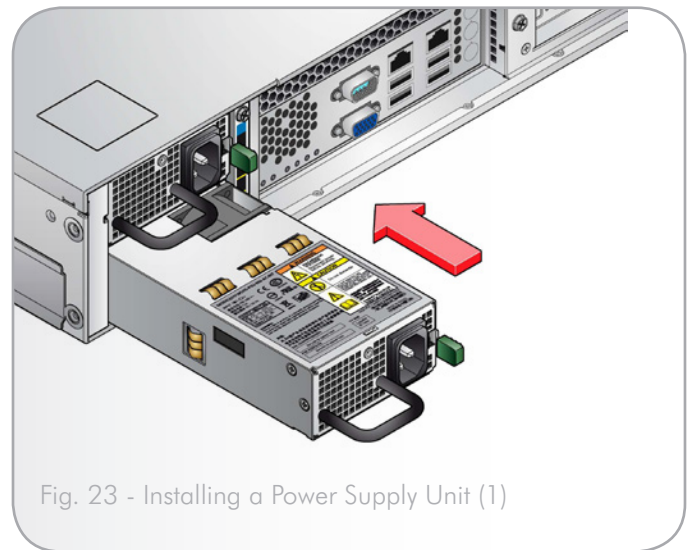

Fig. 23 - Installing a Power Supply Unit (1)
2. Slide the PSU into the mounting cage (Fig. 23). A click should be heard as the securing spring engages.